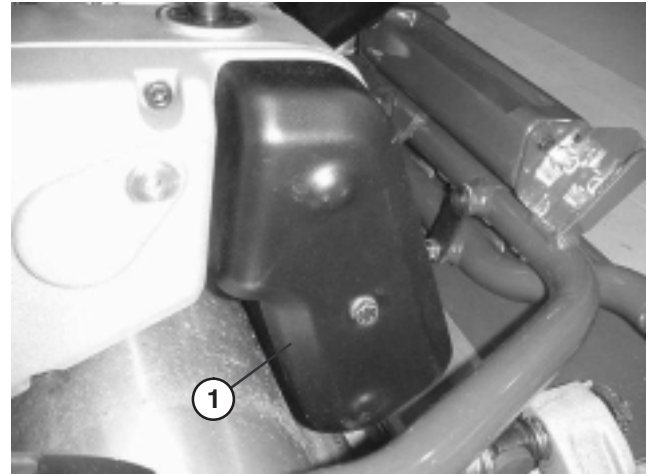

Figure 40
1. Remove the belt cover mounting fasteners and belt cover to expose belt (Fig. 40).